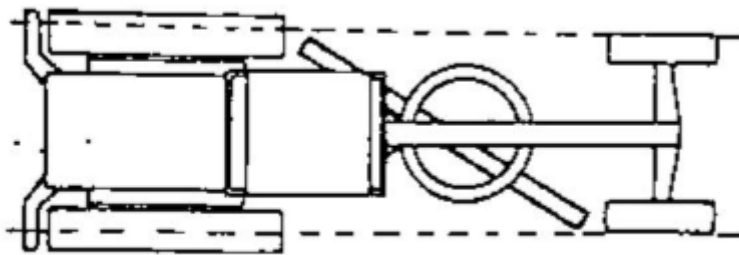

Figure 9
- 3). Adjust the articulated steering, the front and rear must be in a straight line (Figure 9).